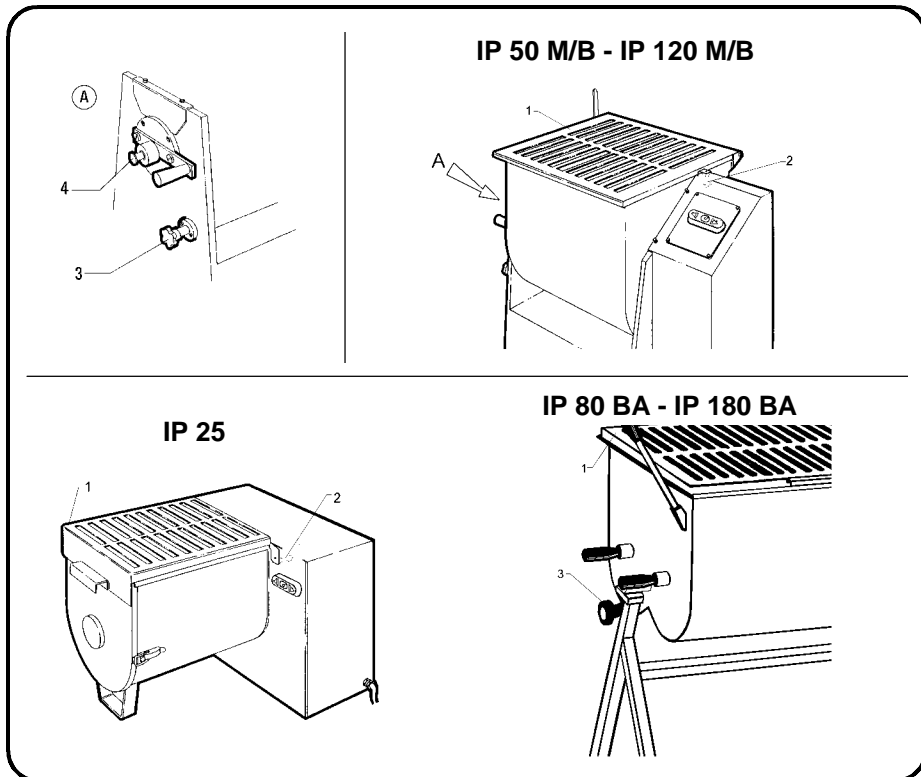

Fig. 1.8.1
This safety feature impedes incidental contact with the rotor. (Fig. 1.8.1)
2. Micro-switch (Fig. 1.8.1).